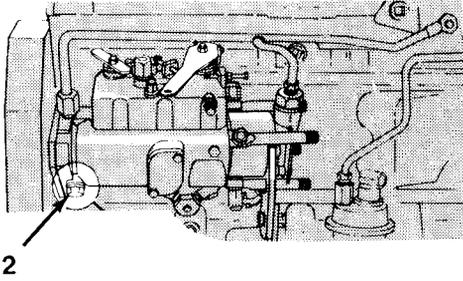

Figure 7-4
8. Loosen injection pump driveshaft lockscrew (2, Figure 7-4).